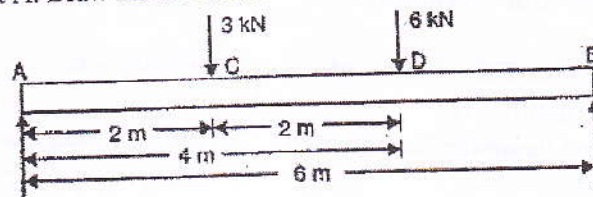

Fig.3
- b) A simply supported beam shown in Fig.3 of length of 6m carries point load of 3 kN and 6 kN at a distance of 2m and 4m from left Support A. Draw S.F.D. and B.M.D.